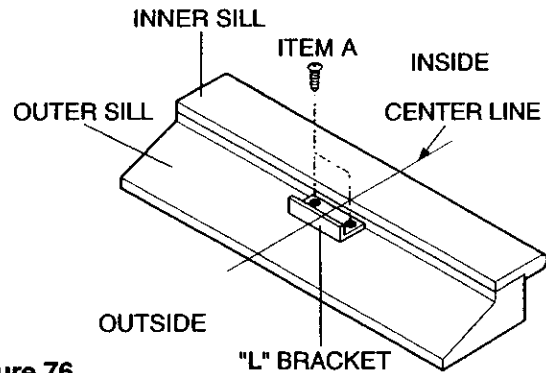

Figure 76
- Bracket helps to hold unit securely in place. Be sure to place bracket edge flush against back of inner sill. (See Figure 76)